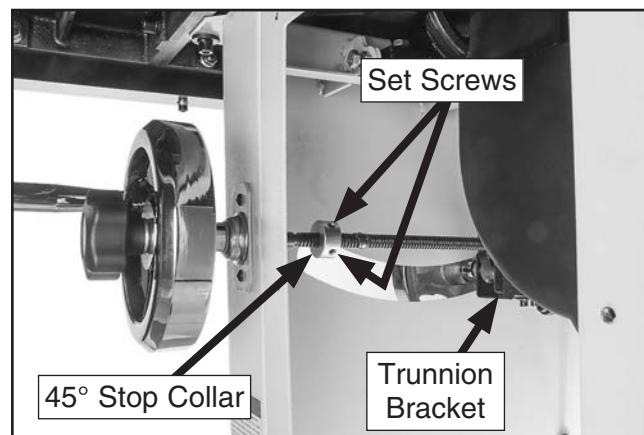

Figure 106. Location of 45° stop collar (right access cover removed).
5. Open right access cover, loosen set screws on 45° stop collar (see **Figure 106**), then turn collar one turn away from trunnion bracket. This will allow you to adjust blade to exactly 45° in next step.